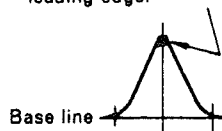

Fig. 1
1. Feed in a weak signal to TP102 from the genescope. Adjust T101, T201 for maximum gain and the wave form indicated in Figure 1. If the center of the wave form cannot be lined up on the marker, adjust the right/left balance.